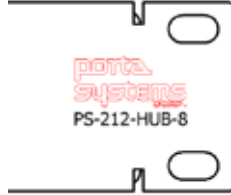

Figure 1.
2. Position the Rack Mount Coax Surge Protector on the rack or cabinet until the holes on the rack and Video Hub are aligned. Insert mounting screws and tighten Rack Mount Coax securely to the rack or cabinet (See Figure 1).